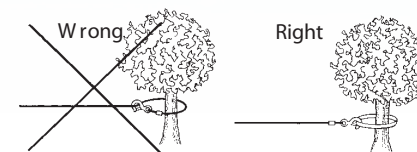

Figure 4
9. NEVER HOOK THE WINCH ROPE BACK ONTO ITSELF because you could damage the winch rope. Use a nylon sling (Figure 4).